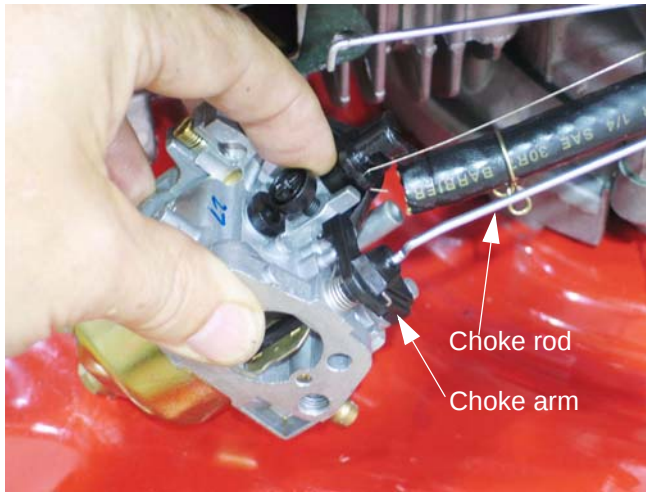

Figure 8.19
- 8.19. Pivot the carburetor to disengage the Z-fitting on the end of the choke rod. See Figure 8.19.